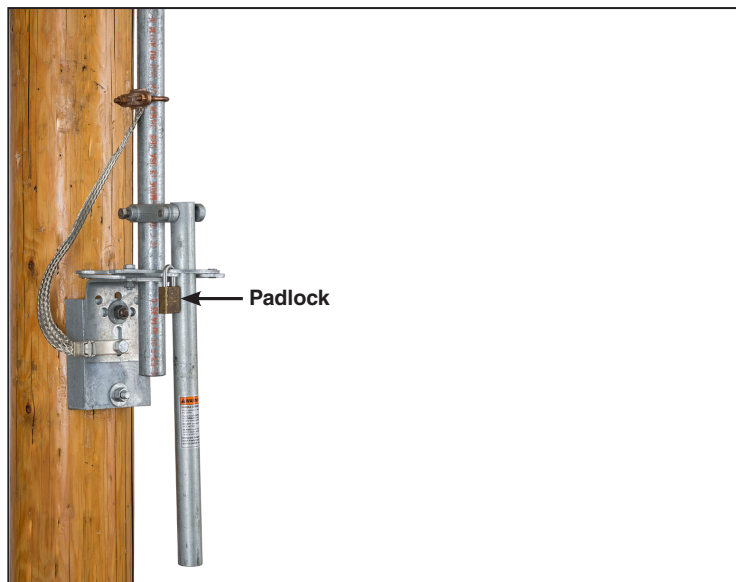

Figure 47. Remove the padlock.
STEP 41. Remove the padlock(s) from the hasps on the operating-handle assembly. See Figure 47.